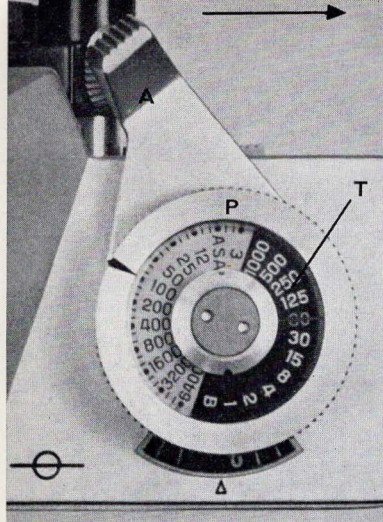

Fig. 1
The winding lever A (fig.1) cocks the shutter, advances the film, and counts the
To set the shutter speed turn ring P (fig. 1) to the required speed, shown by the red line of the transparent disc, without going past the black sector (do not force it).
Do not forget to set the film speed on the exposure meter; depress the outer ring of the speed dial P (fig. 1) and turn the black index mark until it is opposite the ASA speed of the film (fig. 10). For easier setting of the speed the dial can be put to one end of its scale.
a) The shutter speed is set, depending on the subject (fig. 1). Remember to set the film speed when changing films (fig. 6). Lock the shutter release by sliding lever V towards the lens. Press the shutter release (D) to allow the meter and diaphragm to operate. While keeping pressure on the release turn the aperture ring until the lamps visible in the viewfinder and in the accessory clip are both lit.